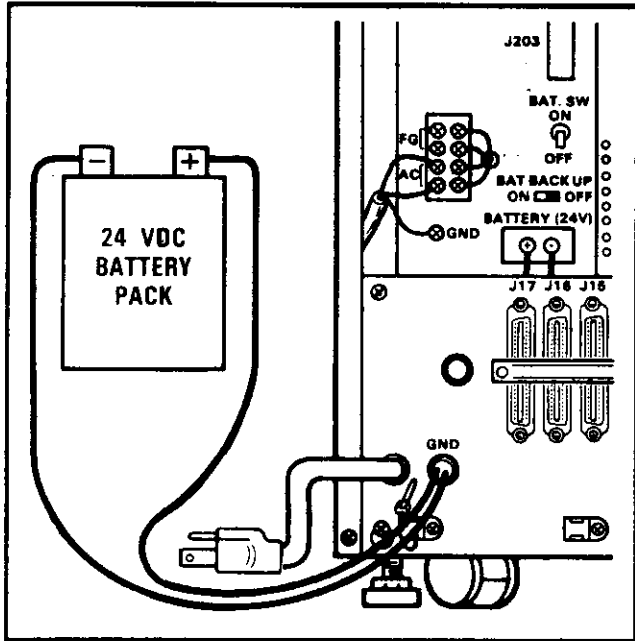

FIGURE 46—RESERVE POWER INSTALLATION
13.23 To install Reserve Power, refer to Figure 46 and follow the steps below:
- 3) Place the **BAT. SW** in its **OFF** position (Figure 46).